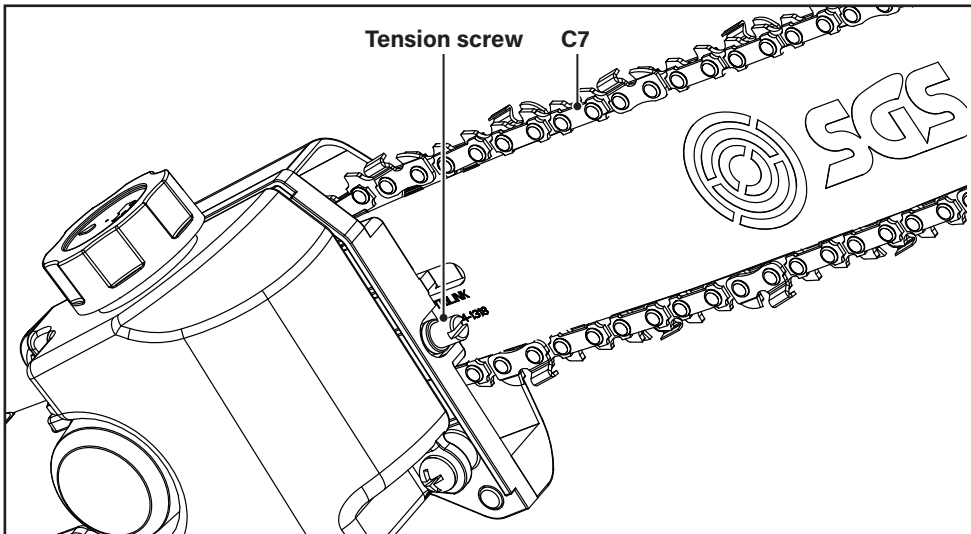

Fig. 5
8. Using the multi-tool (F7), rotate the tension screw in clockwise direction to increase the tension on the saw chain (C7) or in anti-clockwise direction to decrease the tension on the saw chain (Fig. 5).